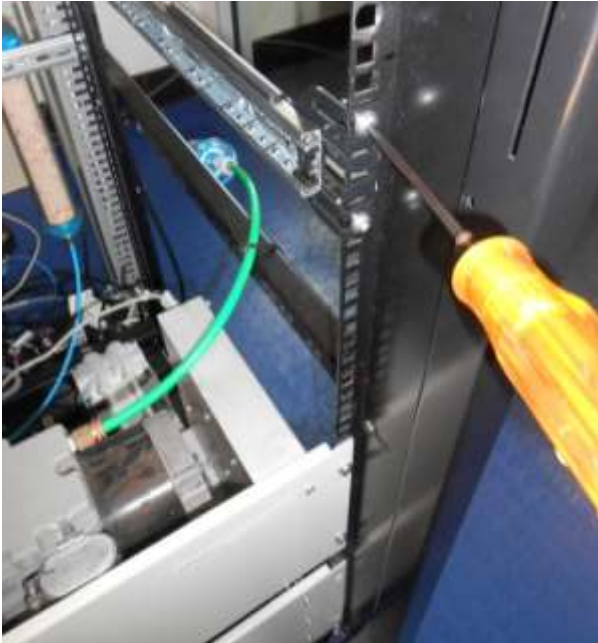

Figure 102 – Attach Slides to Front of Rack
7. Install the two assembled outer slide rails onto the left and right side of the rack securely with M6 bolts, washer and locknuts/cage nuts (refer to Figure 102).